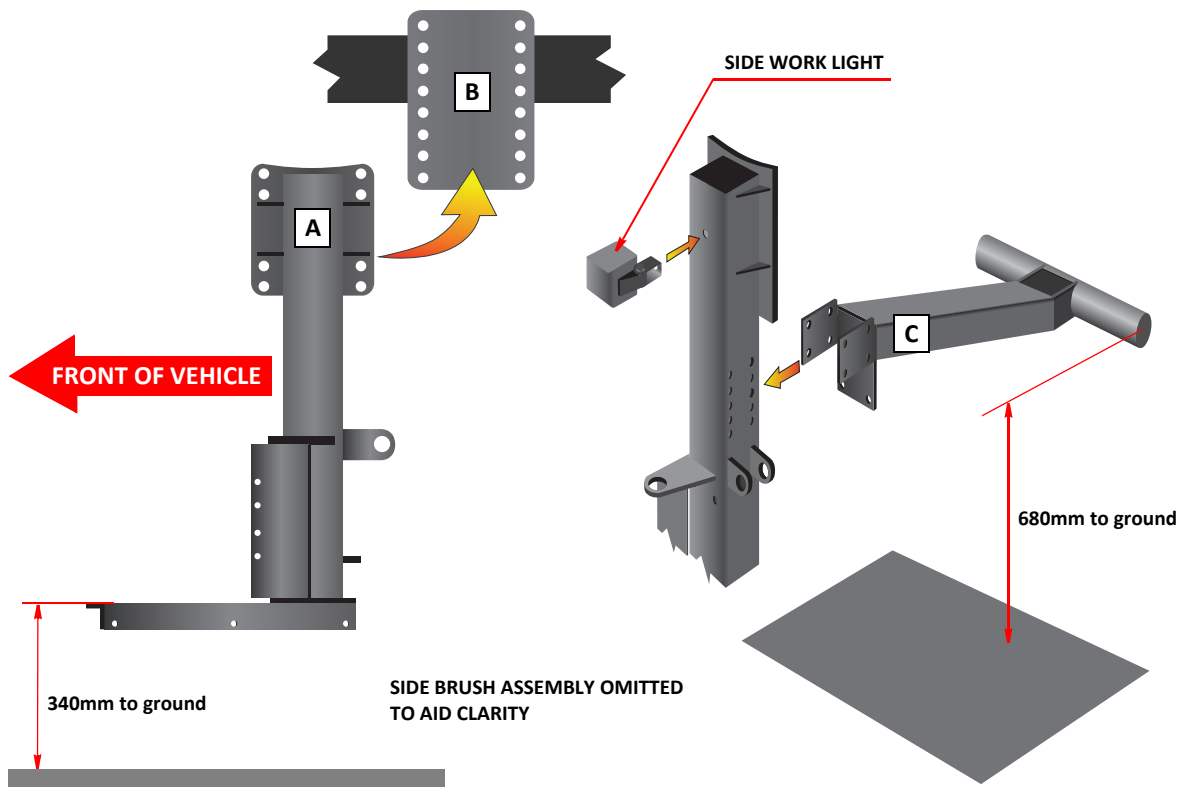

Figure 7 - Side brush leg and wide sweep bracket fixing dimensions (left hand shown)
1. With the leg (A) at the correct height, Refer to Figure 7, select the holes in plate (B) that are the nearest to the leg fixing hole. Secure with 4 x M12 x 35mm long bolts, Grade 8.8 and M12 self-locking nuts, Grade 8.
2. With the leg correctly attached, position the wide sweep bracket (C) at the appropriate height, Refer to Figure 7. Secure with 8 x M12 x 120mm long bolts, grade 8.8 and M12 self-locking nuts, Grade 8.